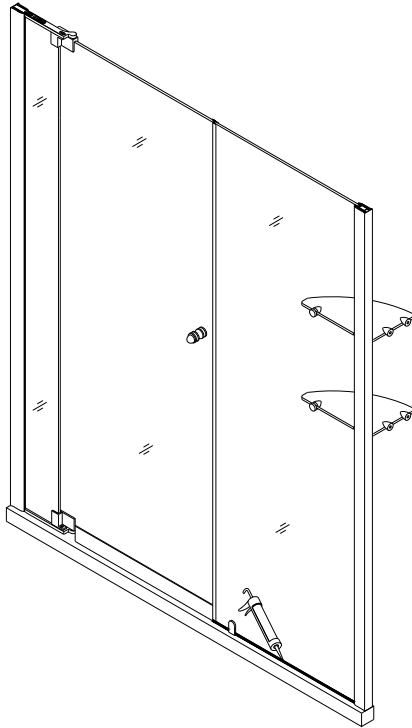
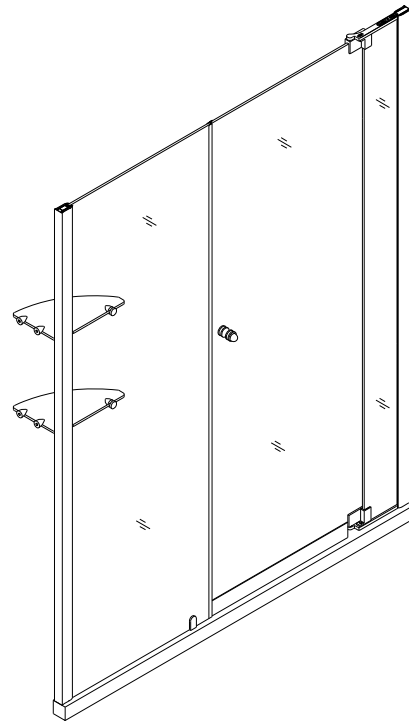

Fig 23
Fig 24
23. Apply silicone sealant between the tray or threshold and the stationary glass and the accessory. See Fig 23 for details. (Fig 23 is left door open; Fig 24 is right door open.)
**NOTE: If you need another direction for the door opening, you need only to exchange the position of the wall profile for stationary glass (1) and the pivot assembly (12). See Fig 23 & 24**